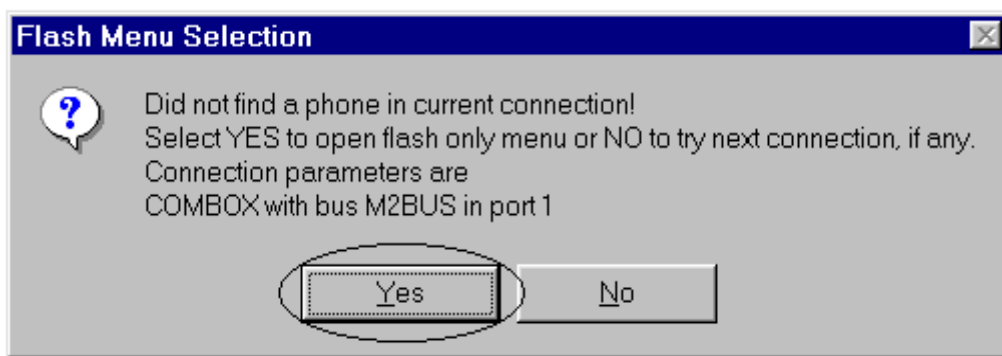

Figure 13. Flash menu selection
2. Use product-> Open-> RAE-3. (Figure 13)